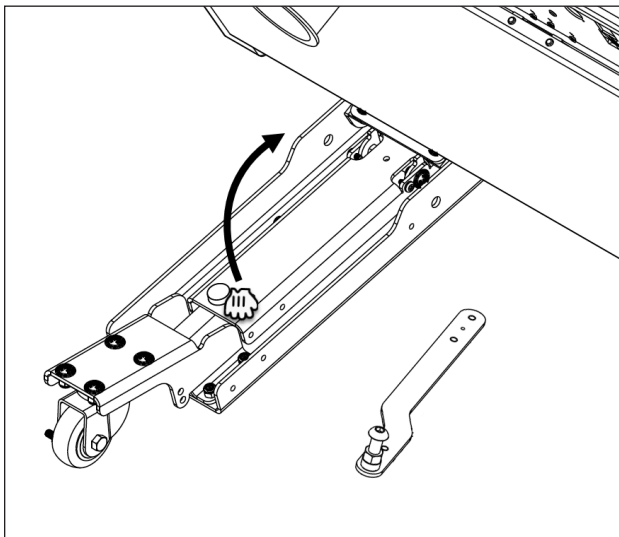

Figure 29: Raise Pivot Arm (Left Caster Base)
5. Grab and lift up on the rear of the left caster base pivot arm to raise that side of the table off the floor. Refer to **Figure 29**. Again, the tabletop should be pushed up flush against the rear of the display cabinet to be secured in place by the pivot arms.